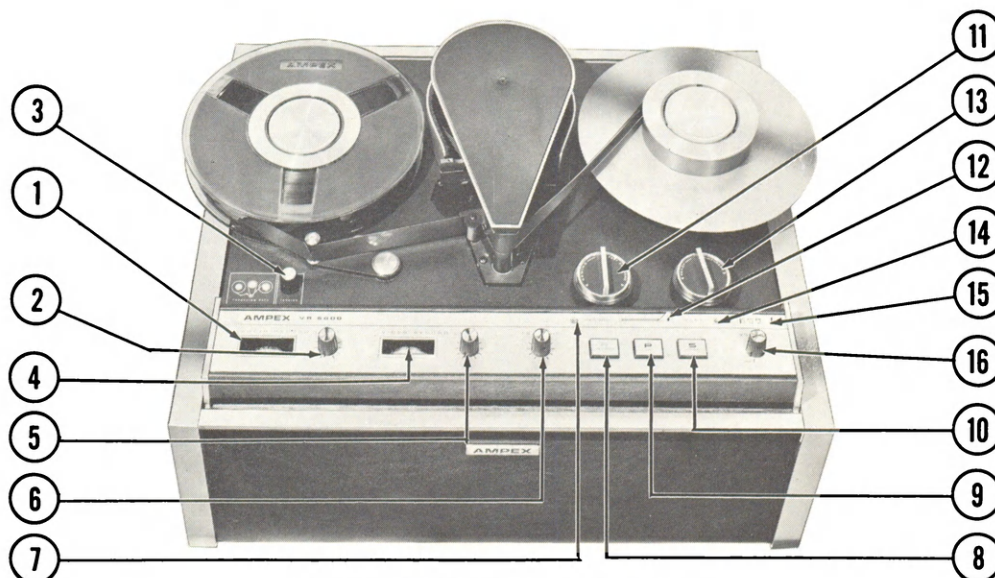

Figure 3-4. Location of Front Panel Controls
The operating controls of the Model VR5000 are all conveniently located on the front panel of the recorder. All controls are clearly identified as to their function and are grouped to allow adjustments with minimum operator movement. All front panel controls are identified in Figure 3-4 along with a complete description of each control function.
2. Depress the record interlock button (item 7, Figure 3-4) and hold while moving the RECORD/PLAY lever (item 12, Figure 3-4) to the left to RECORD. This is the RECORD-STANDBY mode.
3. Adjust the VIDEO RECORD LEVEL control (item 5, Figure 3-4) while camera or TV receiver is producing a scene on the monitor. VIDEO LEVEL meter should read 100% on a snow scene, darker scenes require a setting of approximately 85%.
4. To record audio in addition to video, set the AUDIO RECORD LEVEL control (item 2, Figure 3-4) for an AUDIO RECORD meter (item 1, Figure 3-4) indication of 100% on peak levels. Monitor audio and video levels while recording.
2. Check to see that the RECORD/PLAY lever (item 12, Figure 3-4) is in PLAY.
3. Depress the PLAY pushbutton (item 9, Figure 3-4) to start tape motion.
4. Adjust the TRACKING control (item 6, Figure 3-4) for a maximum indication on the VIDEO RECORD meter (item 4, Figure 3-4).
5. Adjust the TENSION control (item 3, Figure 3-4) for minimum bending at the top of the picture.
6. Set the VOLUME control (item 16, Figure 3-4) for the required audio level.
7. Depress the STOP button (item 10, Figure 3-4) when playback is complete.